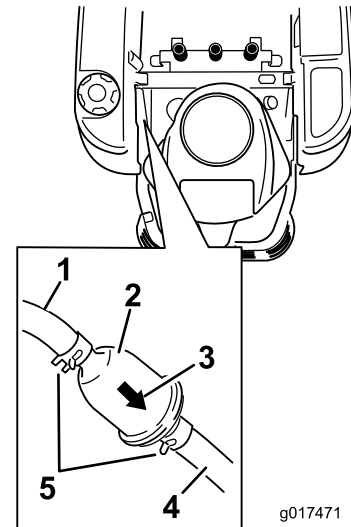

Figure 42
3. Locate the fuel filter on the side of the engine as shown in Figure 42.
4. Squeeze the ends of the hose clamps together and slide them away from the filter (Figure 42).
6. Install a new filter with the flow direction arrow coming from the fuel tank and pointing to the engine. Move the hose clamps close to the filter (Figure 42) to secure it in place.